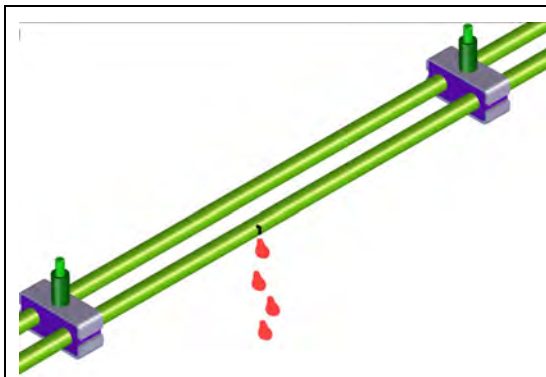

FIGURE 4: ALONG THE PIPE REPAIR - BEFORE CUT
6. Locate the puncture on the pipe (Figure 4). Have a clean container, as power steering fluid will drip from the pipe once cut. **DO NOT REUSE** this fluid.